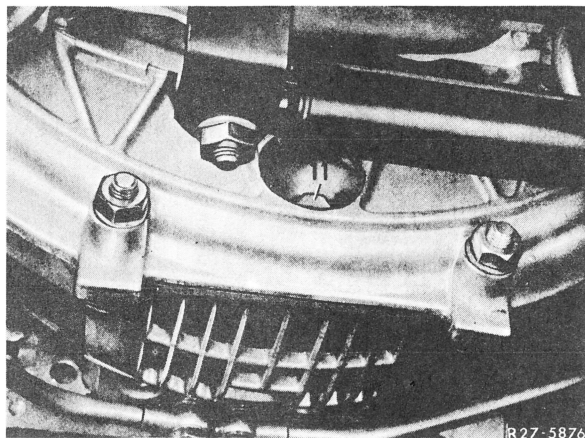

Fig. 11
21 Pull covering plug out of intermediate flange. Separate torque converter from driven plate by unscrewing six fastening bolts (11) (Fig. 11).